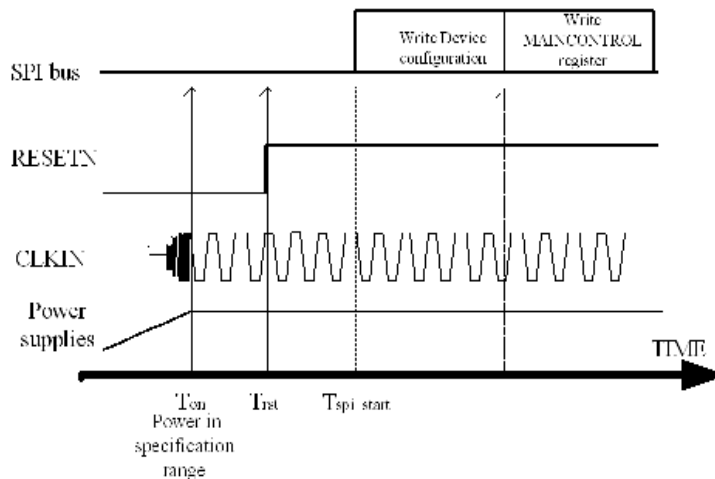

Fig 32. power up sequence
There are four steps for the power-on sequence (see Figure 32):
1. all supplies and clock are switched on. at  $T_{on}$  time (see Figure 32), all DAC165xQ supplies have reached their specification ranges and the device clock CLKIN is up and running.